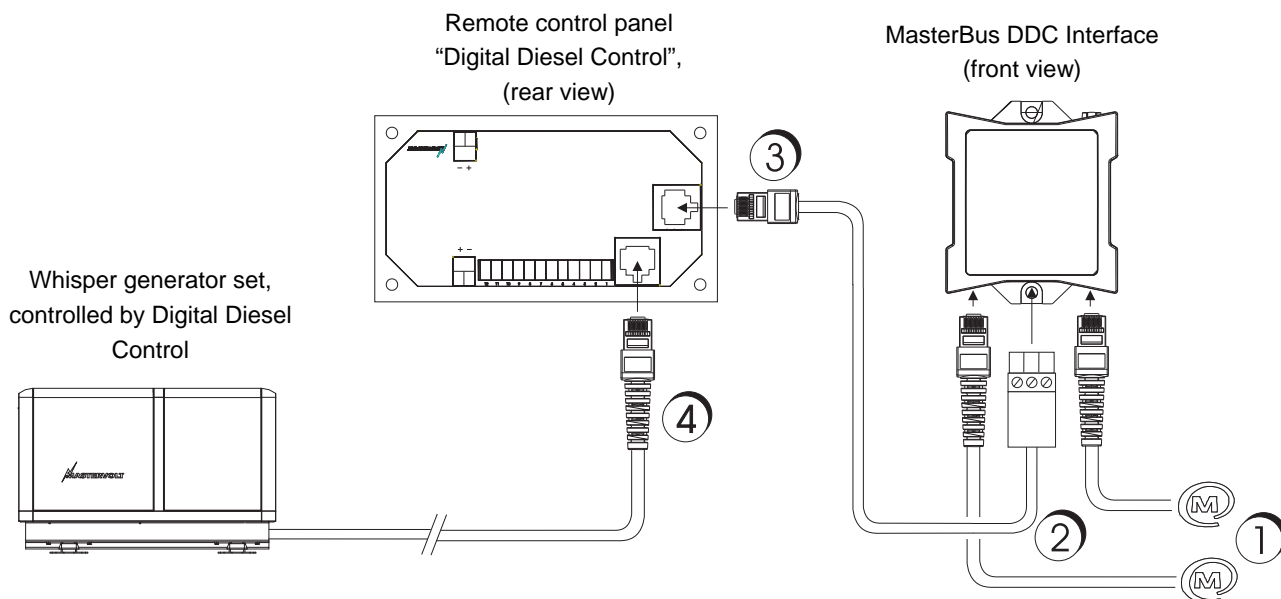

Figure 2: Installation of the MasterBus DDC Interface
- 2 See figure 2. Connect the *MasterBus DDC Interface* to the *MasterBus* network as indicated (reference 1).